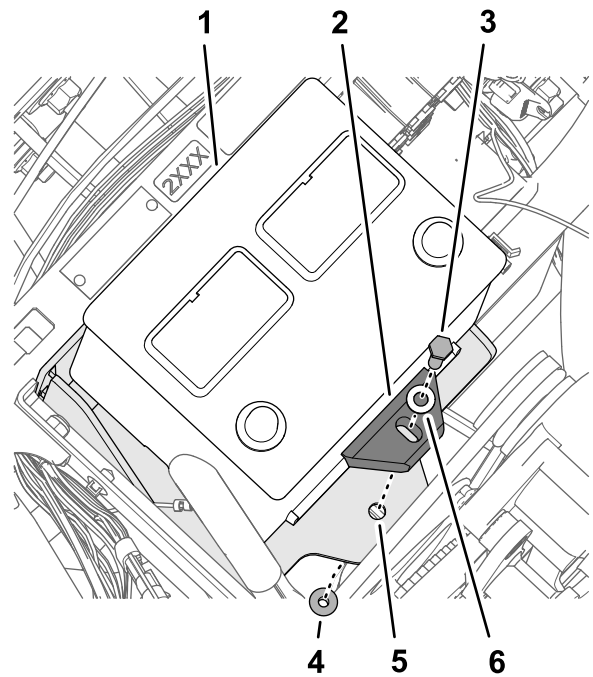

Figure 174
5. Assemble the battery to the battery bracket with the bolt (5/16 x 1-3/4 inches), washer (5/16 inch), battery retainer, and flange locknut (5/16 inch) as shown in Figure 174.